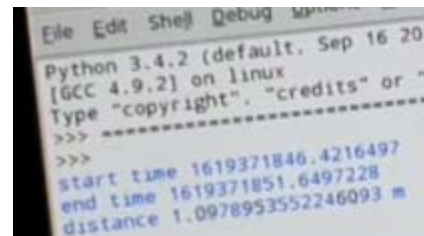

Figure 6. Output for measuring distance
0.21 had the nearest value to 1.05 m. Thus, it was used as the *speed* for calculation. The output shown in Figure 6 shows that the distance calculated was 1.10 m. This is close enough to 1.05 m.